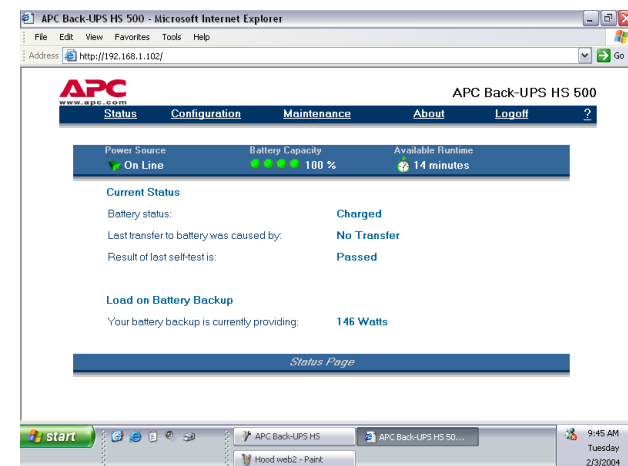

Figure 13. Back-UPS HS 500 Status Screen
12. Before performing any UPS maintenance task, check the Status of the UPS by clicking on the **Status** link. The screen shown in Figure 13 will be displayed.